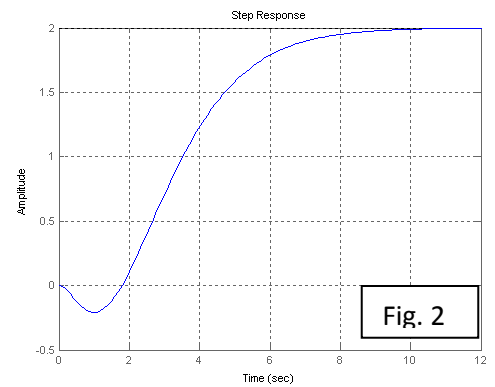

Fig. 2
4. Use Ziegler-Nichols rules to design a PI for a system with the step response shown in Fig.2.